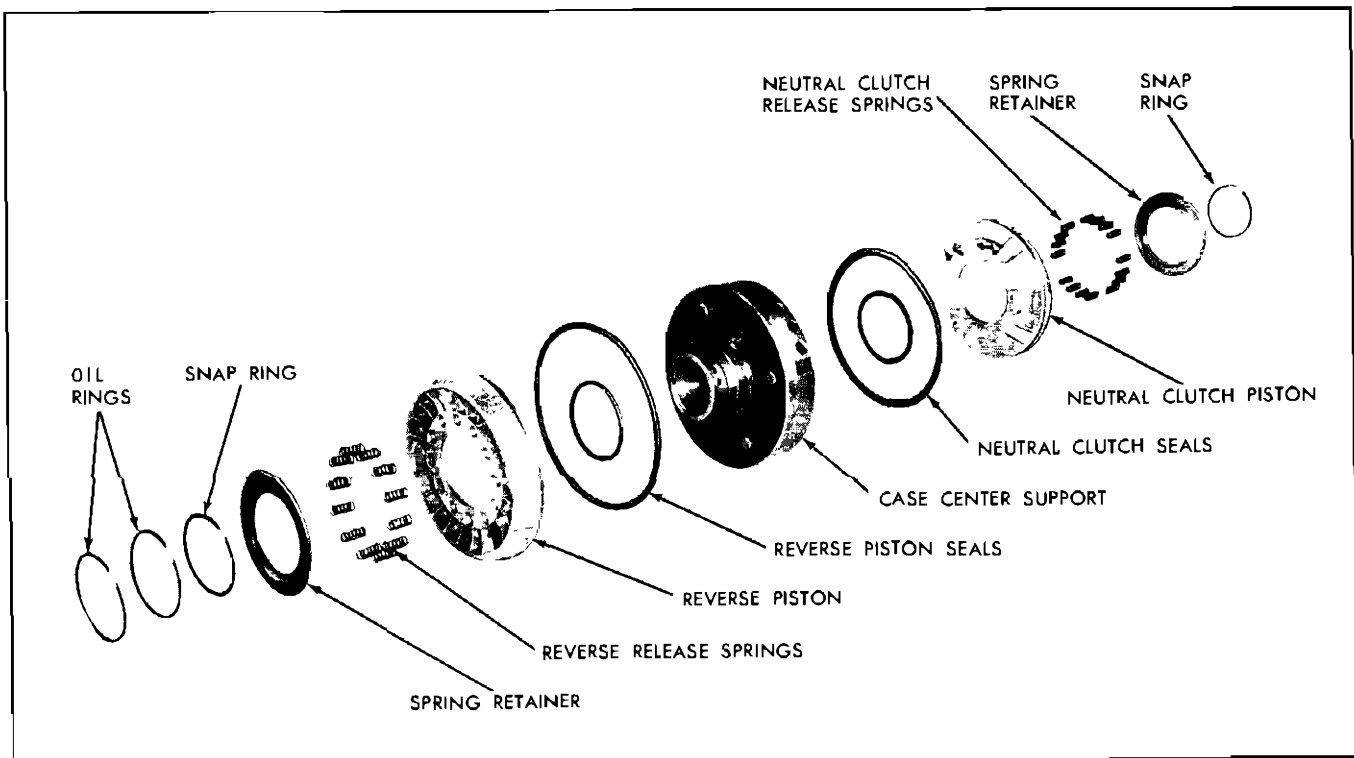

Fig. 85 Case Center Support—Exploded
1. Remove 2 oil delivery sleeve hook type oil seal rings from case center support (Fig. 85).